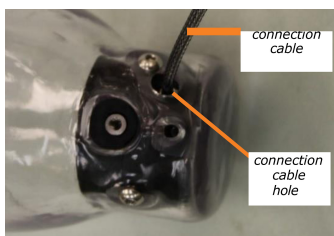

Figure 18
- For distal mounting, use a 2 mm hex wrench to install the (4) M3 screws.
- For side mounting, use a 2.5 mm hex wrench to install the (4) M4 screws. Make sure to route the connection cable out through the connection cable hole (Figure 18).